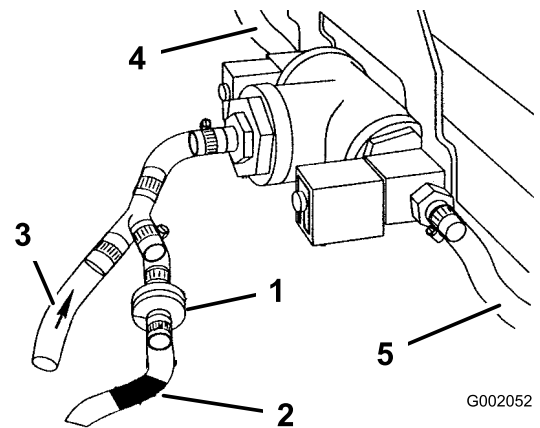

Figure 16
3. Slide the marked supply hose onto the barb on the check valve located at the tee assembly (Figure 16).
4. Connect the other supply hose to the barbed “Y” at the tee assembly (Figure 16).
- Secure both hoses with small hose clamps (Figure 16).